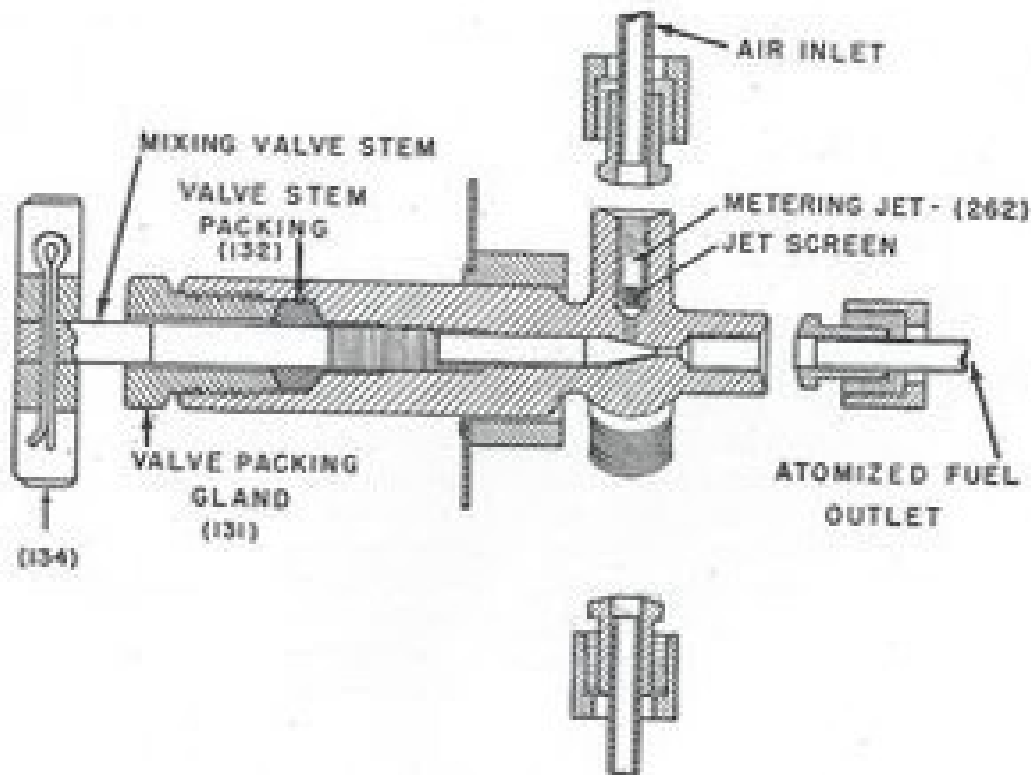

Figure 12. Mixture (air) valve (cut-away view).
(6) Replace the packing if it will not stop leakage when it is tightened. The packing may be removed by inserting a screw driver into the valve stem hole and turning the screw driver counter-clockwise.
(7) Replace worn or damaged parts and assemble in reverse order of disassembly.
a. GENERAL. The mixture valve (fig. 12) is a valve at the upper left-hand corner of the burner front panel. It is used to provide a mixture of air and gasoline from the tanks to the flame valve during the process of starting the burner. The fuel inlet side of the valve contains a metering jet (Part No. 262) which limits the flow of fuel when the valve is opened.
b. REMOVAL. (1) Relieve the pressure in the tank by opening the fuel tank filler cap.
(2) Remove the valve knob (Part No. 134) by pulling out the cotter pin.
(3) Unscrew the packing gland (Part No. 131).
(4) Disconnect the three tubes from the body of the valve. When removing the fuel inlet tube, be careful not to lose or damage the metering jet screen.
(5) Remove the setscrew which holds the body